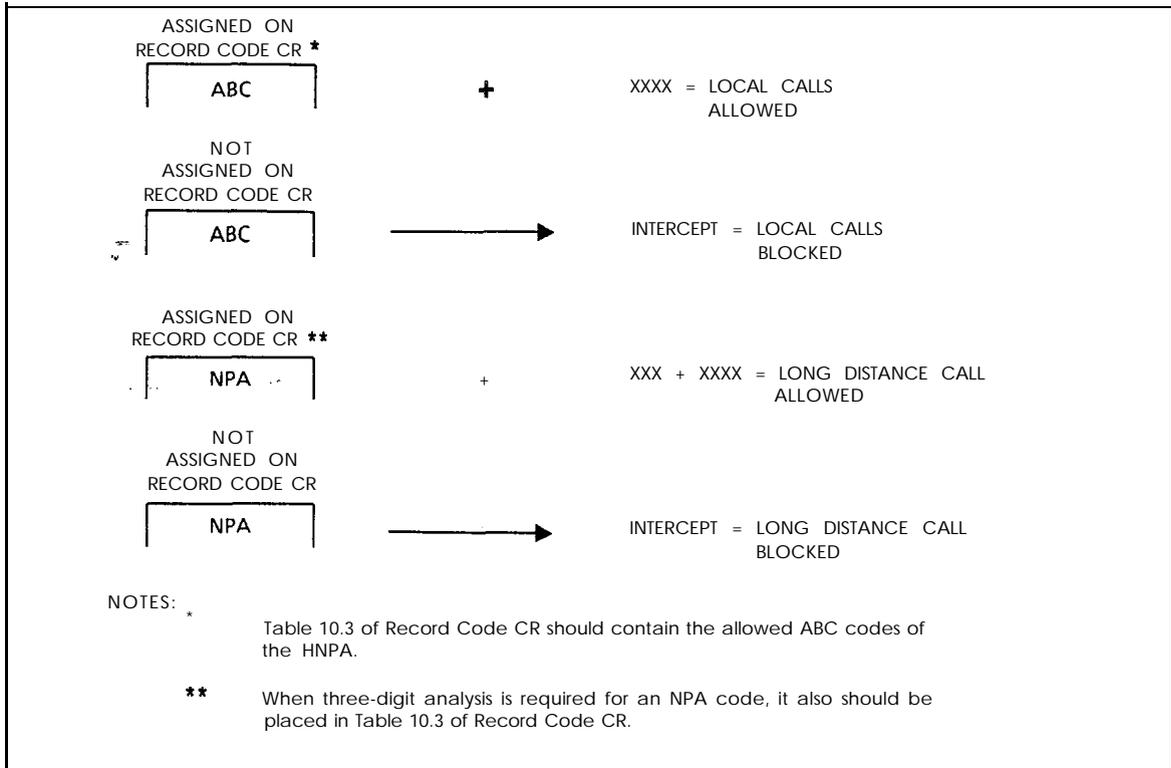

Figure 10.2C Three-Digit Analysis
- Figures 10.2C and 10.2D explain three-digit and six-digit analysis as applied to the system.